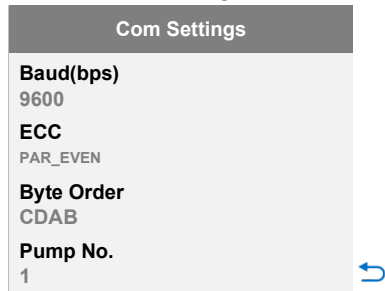

Figure 29 Communication Settings
- **Communication settings-** Sets the parameters of RS485 communication, as shown in Figure 29.